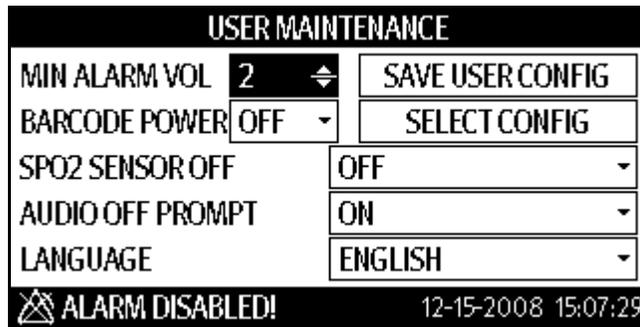

FIGURE 6-18 Example **USER MAINTENANCE** dialog
8. Enter the password 321 to display the **USER MAINTENANCE** dialog as shown in FIGURE 6-18. See Section 6.4, steps 10 – 22 for the password procedure.